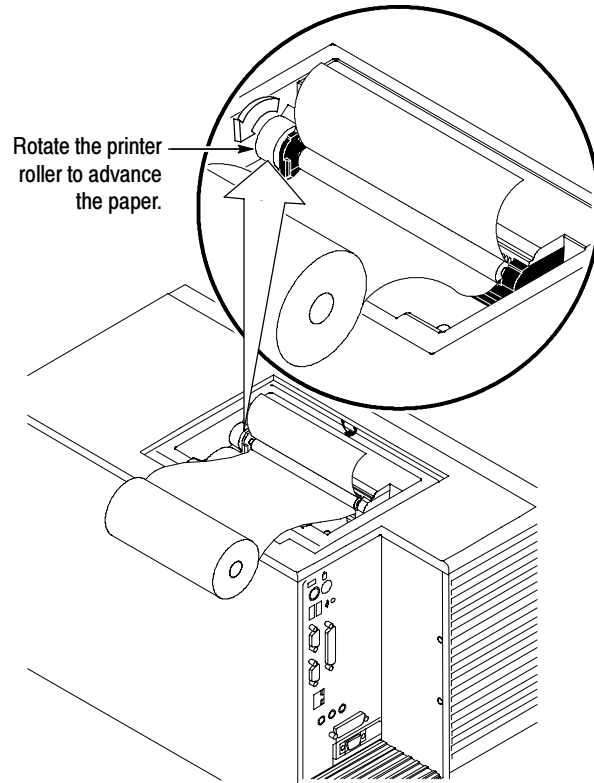

Figure 8: Advance the paper through the printer
5. Rotate the roller to advance about three inches of paper through the printer. See Figure 8 on page 12.